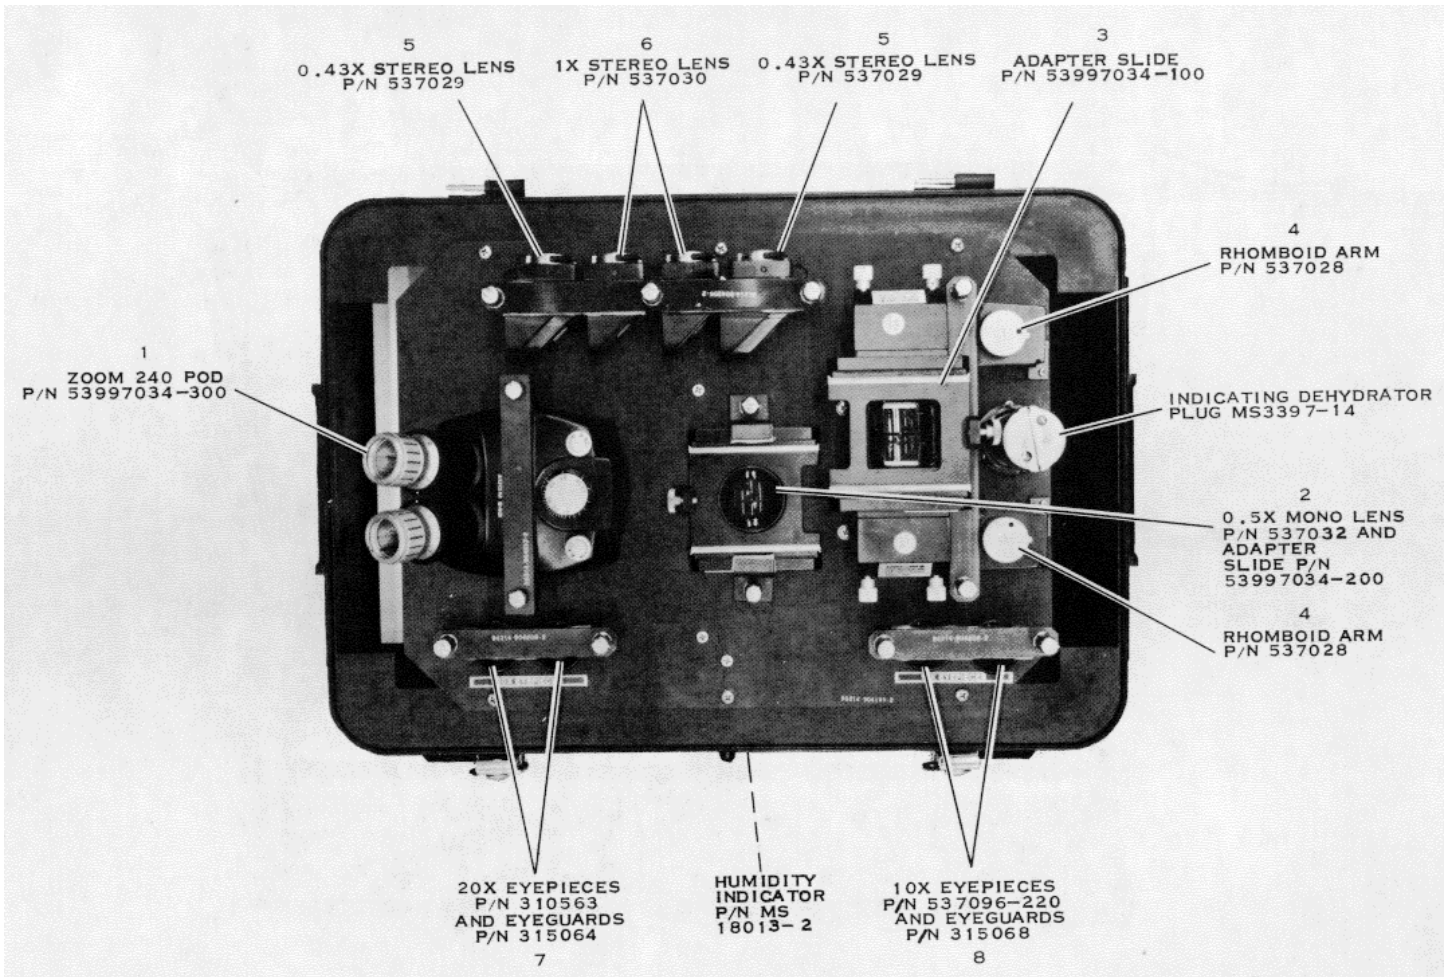

Figure 2-3. Stereoscope Transit Case and Contents
- p. Assemble components of stereoscope (figure 2-3) as follows:
1. Remove zoom 240 pod (1, figure 2-3) from transit case.
3. Remove mono lens (2, figure 2-3) from transit case.
5. Remove adapter slide with rhomboid arms attached (3, figure 2-3) from transit case.
6. Remove rhomboid arms (4, figure 2-3) from adapter slide by loosening two knurled screws on each arm and pulling arm away from slide.
10. Remove desired stereo lens pair (5 or 6, figure 2-3) from transit case and install on rhomboid arms.
11. Remove desired eyepiece pair (7 or 8, figure 2-3) from transit case and slide into zoom 240 pod eyepiece barrel.
- q. Inspect indicating dehydrator on stereotype transit case (figure 2-3). If desiccant inside transparent cylinder is blue, the material is still active. If the desiccant is pink, it is becoming saturated with moisture and needs to be replaced.